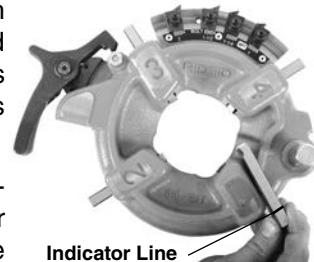

Figure 14 – Inserting Dies
5. Insert appropriate dies into the die head, numbered edge up until the indicator line is flush with the edge of the diehead (see *Figure 14*). Numbers on the dies must correspond with those on the die head slots. Always change dies as sets – do not mix dies from different sets.